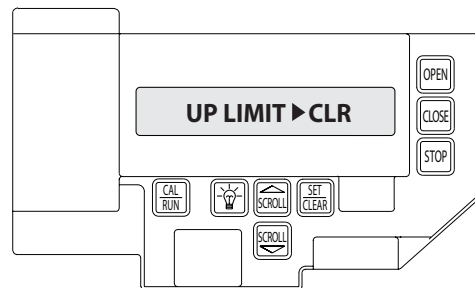

Figure 7
- 2) Press SCROLL  key until display reads "UP LIMIT>CLR " or "DOWN LIMIT>CLR " **Figure 7.**